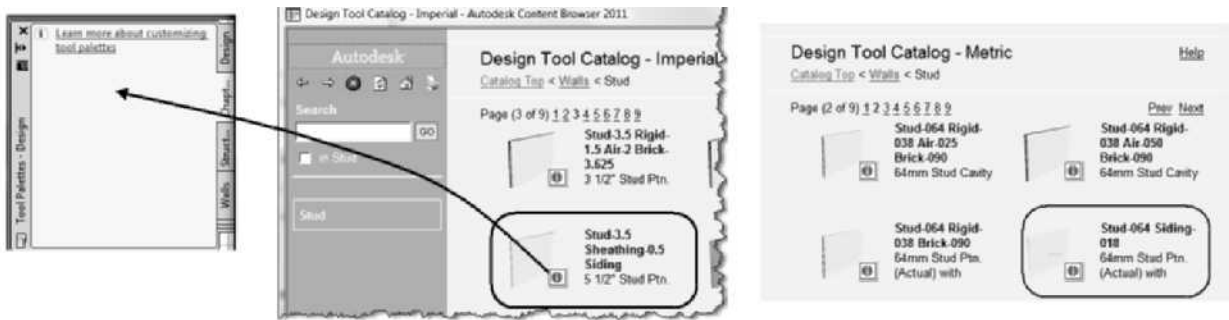

FIGURE 1.36 Placing tools on a tool palette
17. Double-click the Design Tool Catalog - Imperial [Design Tool Catalog - Metric]. Click the **Walls > Stud**. Choose **Next** in the lower-right corner to navigate to page 3 [2]. Select and drag the i-drop of the **Stud-3.5 Sheathing-0.5 Siding [Stud-064 Siding-018]** tool onto the new palette as shown in Figure 1.36. To minimize the Content Browser, left-click in the workspace.